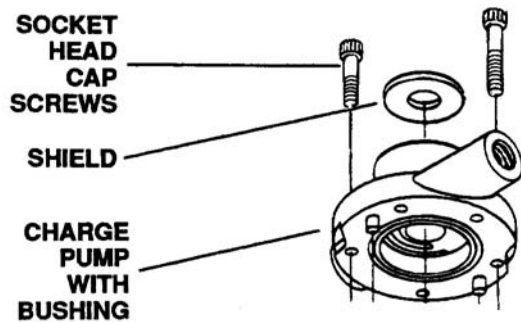

Figure 6-101. Removing Charge Pump
- b. Remove the shield and using a 1/4 inch allen wrench remove the five socket head cap screws. Carefully remove the charge pump. See Figure 6-101.